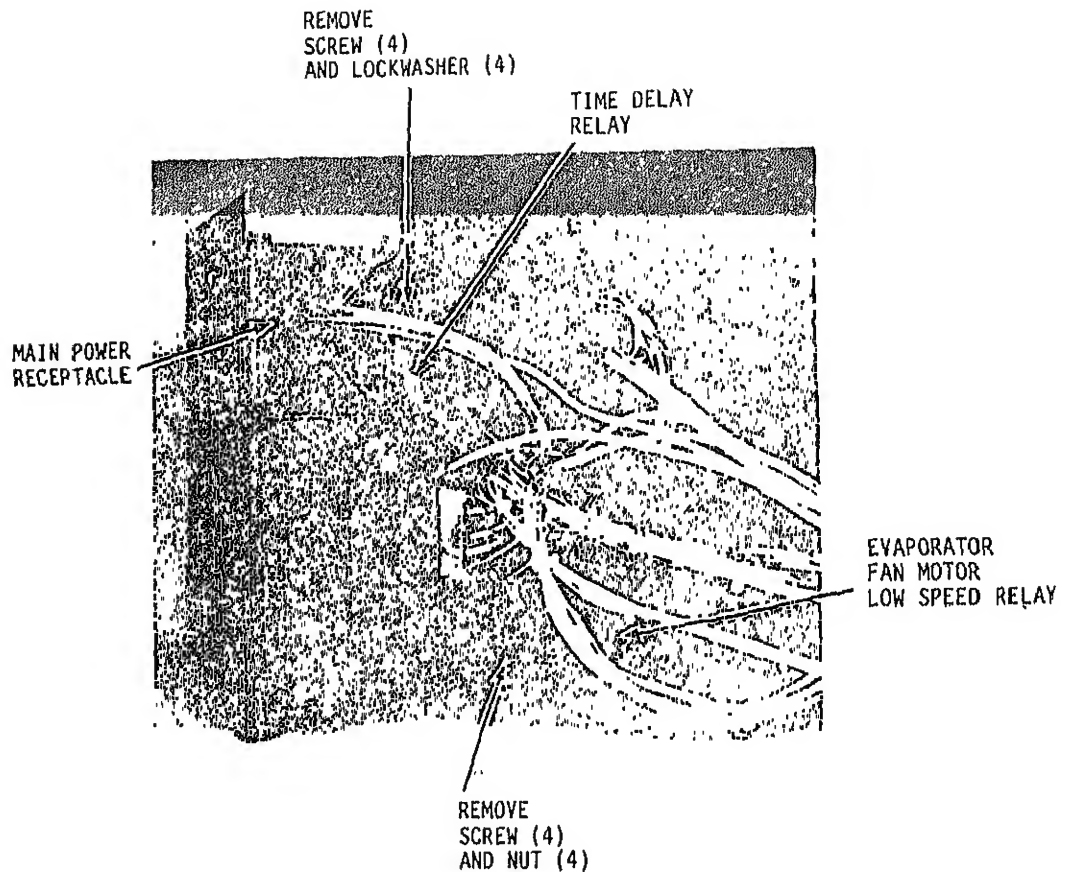

Figure 4-15. Time delay relay and evaporator fan motor low speed relay, removal and installation
(ii) Refer to figure 4-15 and remove the time delay relay.
(i) Refer to figure 4-15 and install the time delay relay.
(ii) Refer to figure 4-15 and remove the evaporator fan low speed relay.
(1) Refer to figure 4-15 and install the evaporator fan low speed relay.